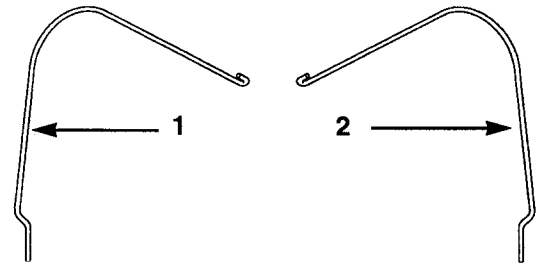

Figure 77
- A.** Identify the left and right hold-down springs (Fig. 77).